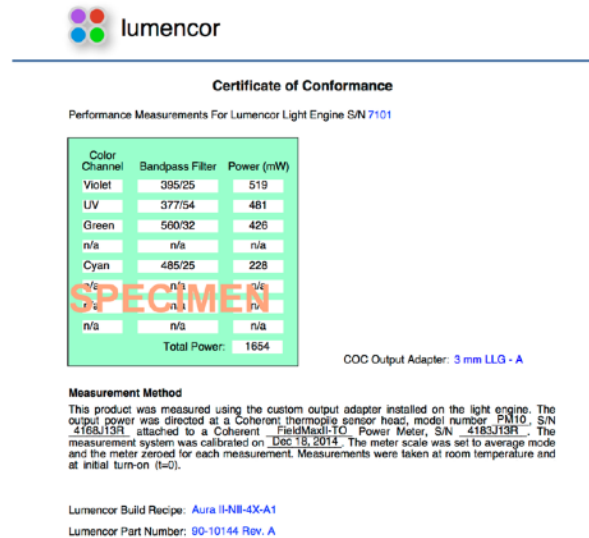

Figure 2. Example certificate of conformance, AURA II Light Engine.
1. AURA II light engine, configured with three, four or five solid-state light sources (color channels). The output of each source is refined by a bandpass filter. Bandpass filters are installed to order according to customer specifications and are not user-exchangeable. The filter configuration for each AURA II light engine is shown on the certificate of conformance issued to the customer when the light engine is shipped by Lumencor (Figure 2).
4. A USB A-to-RS232 cable (Lumencor part no. 29-10011) **or** USB B (M) to USB A (M) cable (Lumencor part no. 29-10058)
are shown on the Certificate of Conformance included with the shipping documents e-mailed by Lumencor to the customer. The certificate of conformance also shows full (100%) power outputs for each source measured at the terminus of the liquid light guide (LLG) or optical fiber (Figure 2).
Performance specifications for individual light engines are listed on the certificate of conformance included with the shipping documents e-mailed to the customer (see example shown in Figure 2). It is important to retain the certificate of conformance for reference. In the event that the light engine is sold, the certificate of conformance should be transferred to the new owner. Certificates of conformance are also recorded in Lumencor's database and copies can be requested by e-mail to techsupport@lumencor.com. The request message must include the 4- or 5-digit serial number of the light engine.